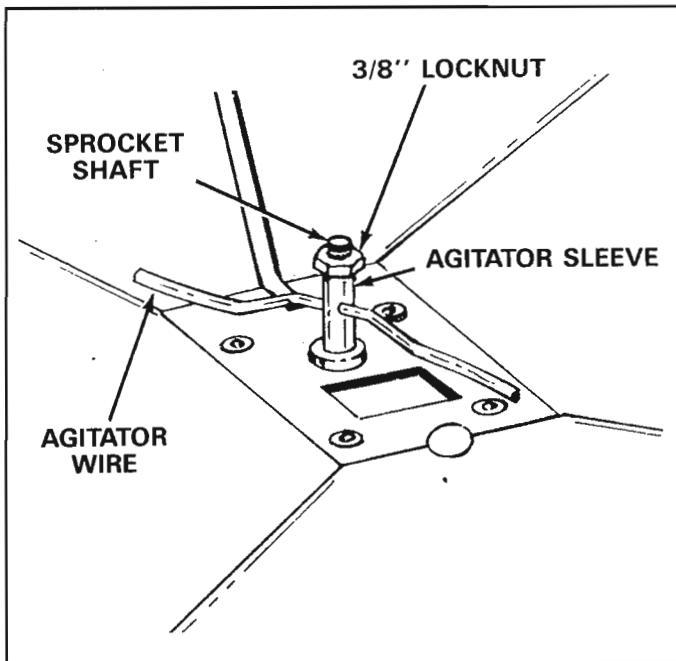

FIGURE 18
4. If agitator wire becomes damaged or worn it can be replaced. Loosen $3/8''$ lock nut on the top of sprocket shaft until agitator wire is free. Remove old agitator wire from hole in agitator sleeve and replace with new agitator wire. Position agitator wire so that sprocket shaft turns freely and tighten $3/8''$ lock nut on top of sprocket shaft. See figure 18.